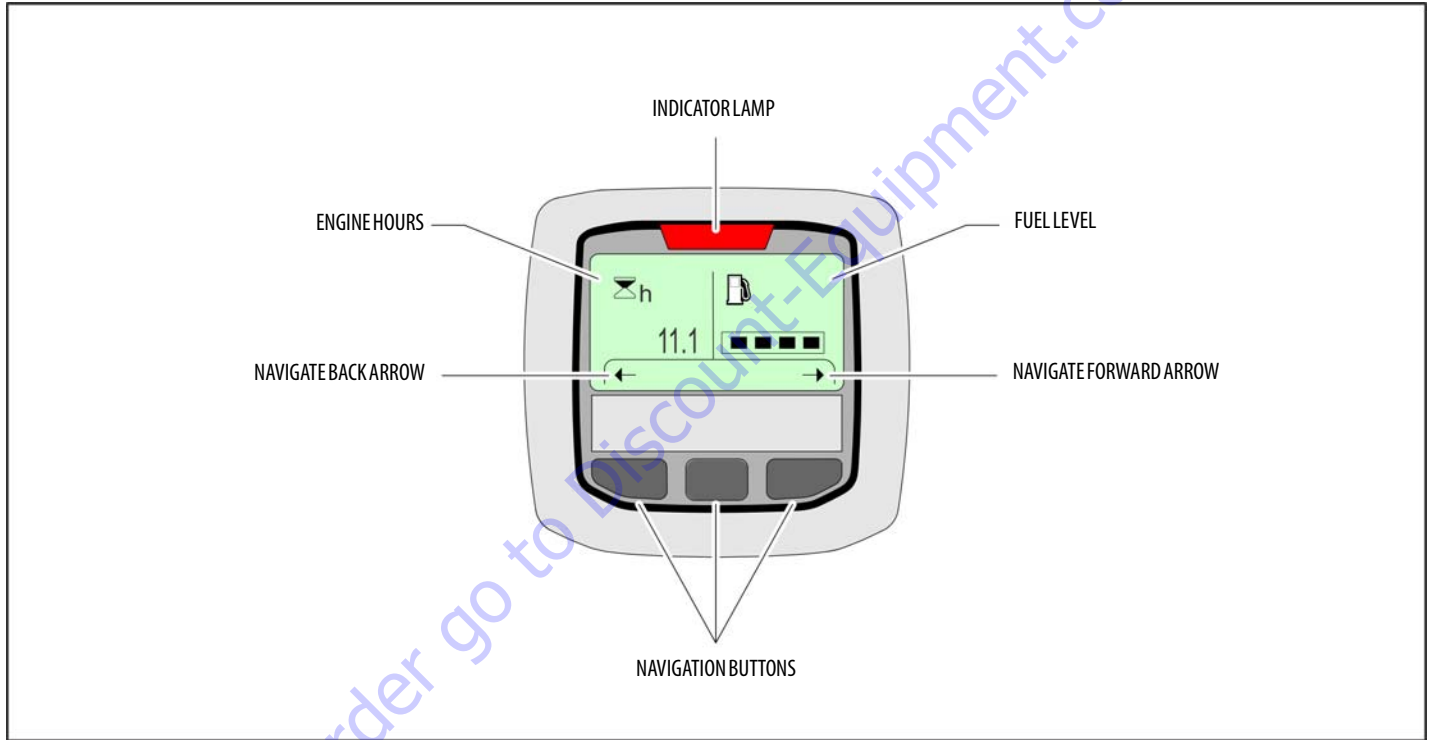

Figure 3-7. Ground Control Console Display Gauge
*(See Figure 3-7., Ground Control Console Display Gauge)*